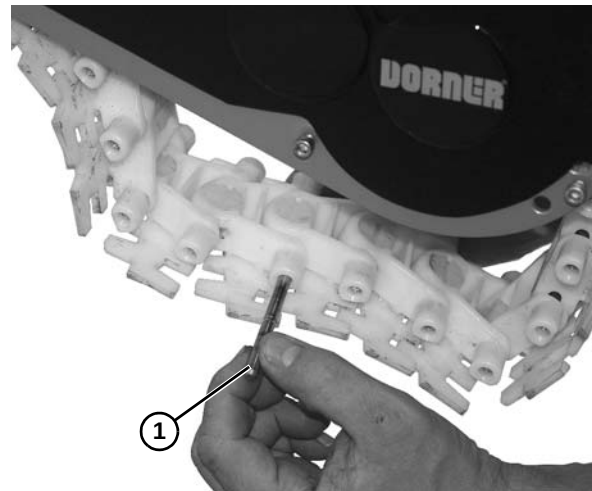

Figure 52
1. Use a punch and hammer or belt removal tool #203480 to push the belt rod (Figure 52, item 1) out by striking the rod end.